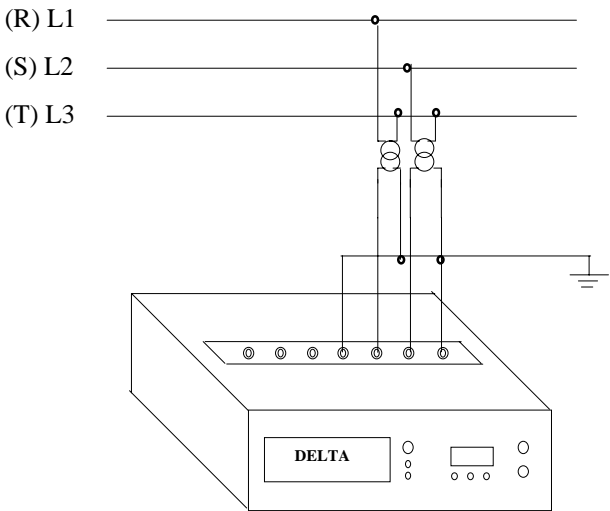

**Fig. 4.9**
**Note:** one of the CT terminals is normally connected to a common ground (see fig. 4.9).